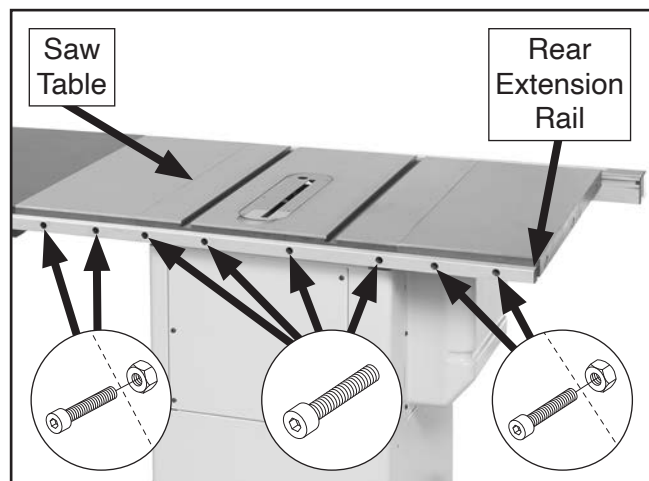

Figure 29. Rear extension rail attached to saw table.
15. Attach rear extension rail to saw table and extension wings with (8) M8-1.25 x 25 cap screws and (4) M8-1.25 hex nuts from G0771Z inventory, as shown in **Figure 29**.